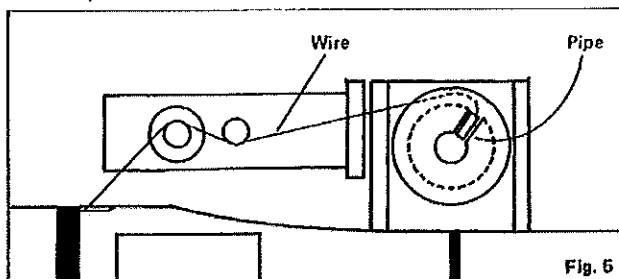

Fig. 5
- 18) Thread the wire through as shown in Fig. 5 and insert the end pipe of the wire into the hole on the tracking force adjustment reel and secure it with the set screw. Confirm that the end pipe of the wire does not appear out of the hole.